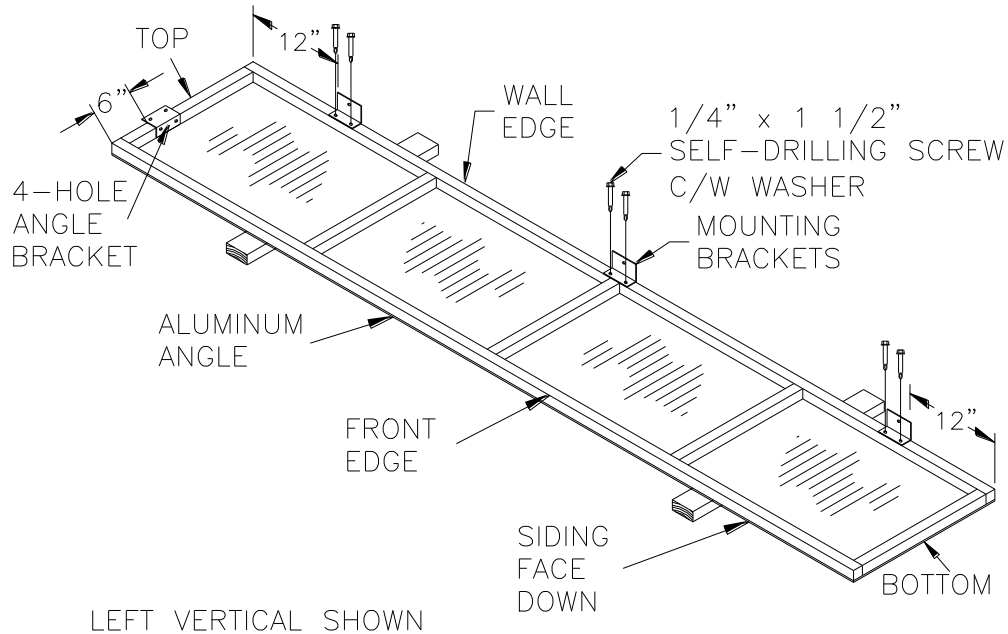

FIG. 4
- b. **Position Mounting Brackets** on Wall Edge of Vertical Frame (Figure 4).
- Use **three (3) 3-hole** Mounting Brackets per Vertical Frame.
- d. **Position 4-hole Angle Bracket** on Vertical Frame (Figure 4).